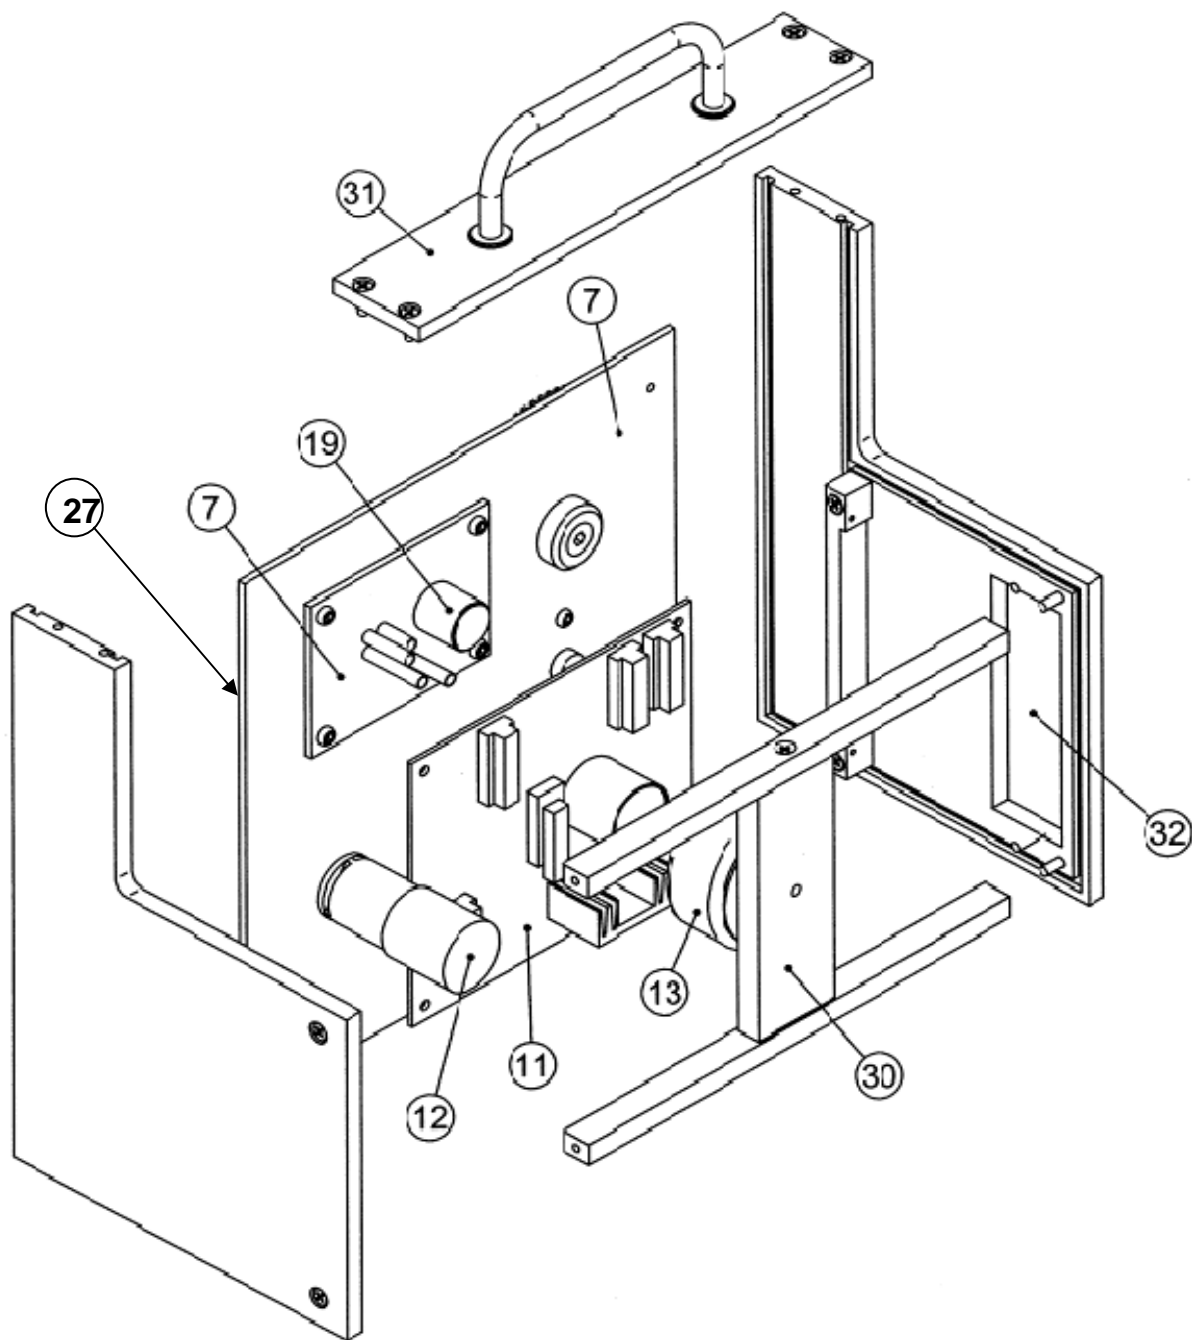

Figure 7 "Exploded View"
- a) Remove the plastic cap (**19**), see Figure 7 “Exploded View”, which protects the spring washer set and thrust ball bearing assembly. Exert a combination of a gentle pull and rotation as when uncorking a small bottle.